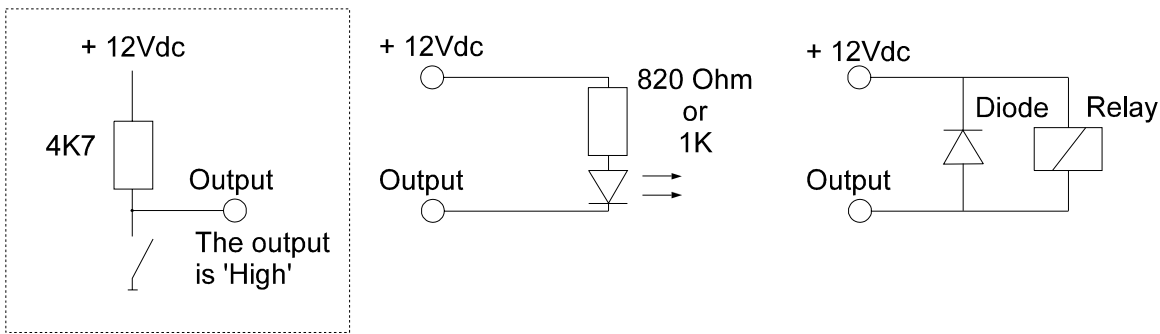

Figure 3. Connection of LED's or relays to the outputs (the boxed area is the principle of an output)
**Note:** The outputs are connected with the minus, Therefore connect everything between the + 12V and the output. See also Figure 3.